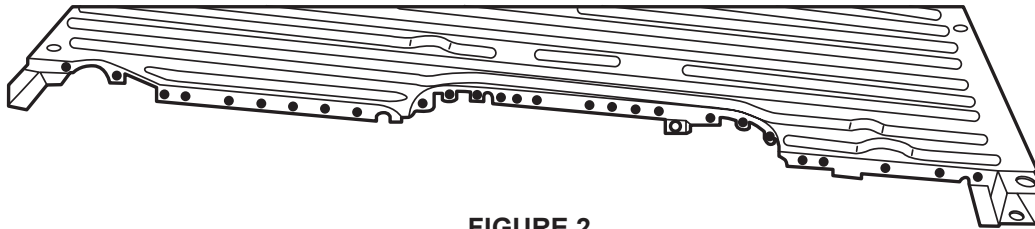

FIGURE 2
- Replace SPRs on sides of pickup box floor with blind rivet (W707638-S900C) according to quantity per side: 22 (6.75' box length), 27 (8' box length), (Refer to Figure 2).